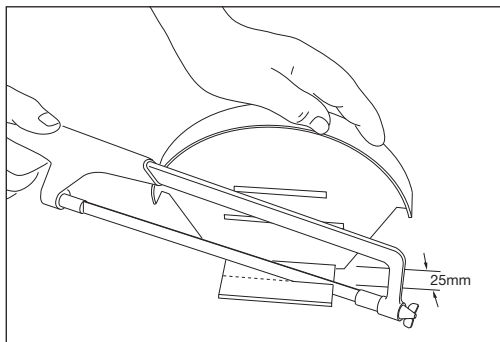

Fig 8 Trimming the ridge cap
- 2 When using a ridge end cap with either the Marley Eternit Dry Ridge or RidgeFast systems, the bottom flange of the cap will need to be reduced to 25mm overall depth (Fig 8).